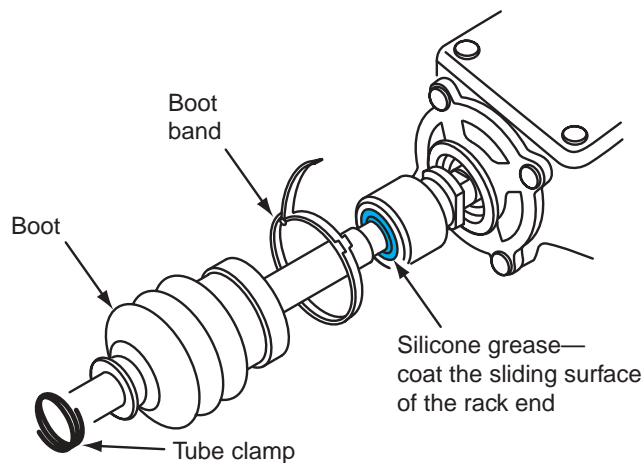

Figure 13-17 Lubrication of the inner tie-rod joint housing.
6. Remove the special holding tool and apply silicone grease to the sliding surface of the tie rod (Figure 13-17). Place a light coating of silicone grease inside the tie-rod boot.